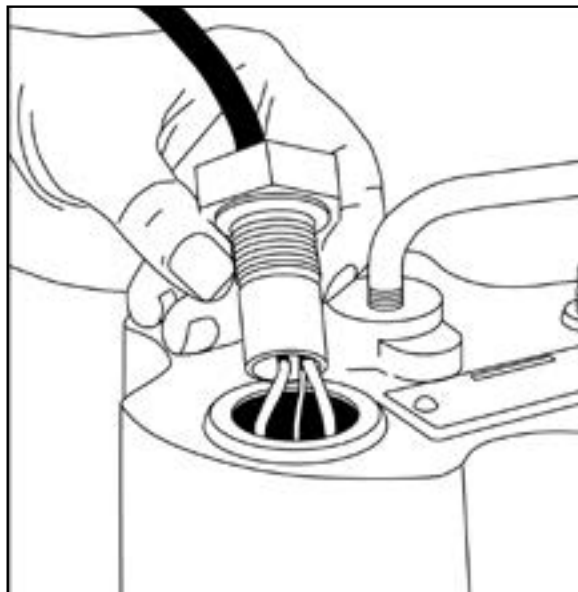

FIG. 14
2. Unscrew cord bushing and remove from housing. Fig. 14
3. Replace with new fitting and cord, be sure "O" ring seal is in place. Fig. 14